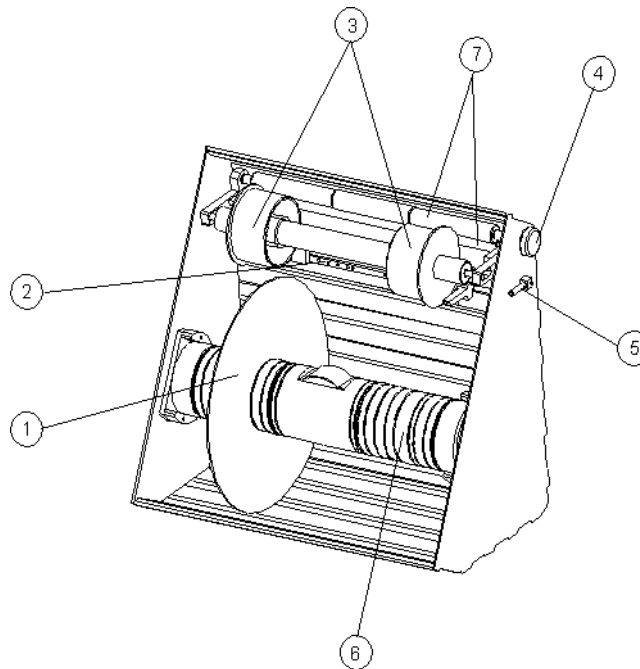

Fig.53 - Paper box for LaserLab 30 (12'')
The box components are described above (see fig. 53 on page 57):
- 1) Adjust the guides for the selected paper width in daylight (fig. 53 nr. 3).
- 2) Position a flange on the selected paper width (fig. 53 nr. 1).
- 3) Take off the hub (fig. 53 nr. 6) and insert the paper roll in the darkroom. Position the second flange till beating.
- 4) Insert paper in the box in order to have the emulsion side towards the bottom when it is inserted between roller and counterroller (fig. 53 nr. 7).
- 6) To release the pressure between roller and counterroller just push up the lever (fig. 53 nr. 5) near to the paper manual transport knob (can be turned only counterclockwise to push the paper out of the box).
- 7) Turn counterclockwise the knob that turns the hub (fig. 53 nr. 4) of the paper to put it in light traction.
- 10) Turn the knob placed on the top of the paper box (fig. 53 nr. 4) till advancing the paper beyond the cutter rollers. Through a little pressure on the PAPER FEED push-button the paper has to go out for a little in the left of the suction plate. Verify the knob to turn by itself.